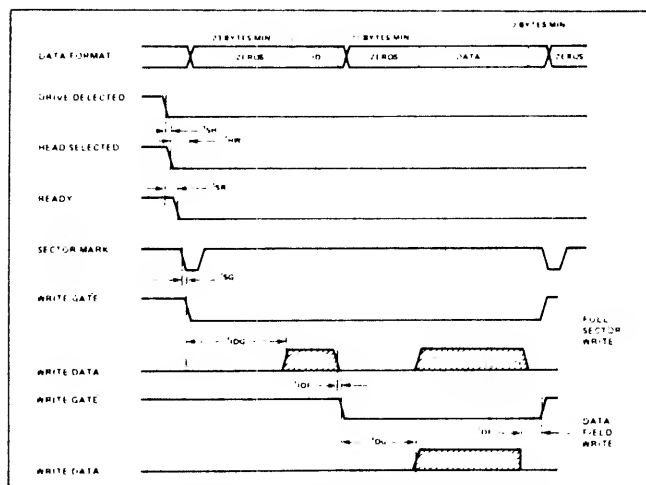

Figure 10.5-7 Record Writing Timing
7. Record Writing Figure 10.5-7 shows the timing requirement for writing full sectors (ID and data fields) and also writing data fields only. The AC characteristics are listed in Table 10.5-7.